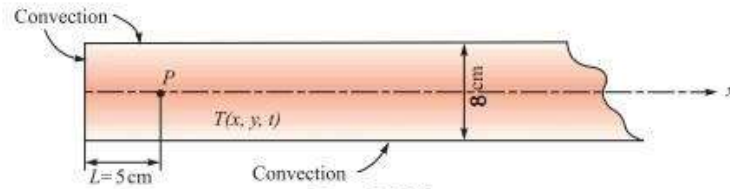

Figure P6-35
- 6-35** A fireclay brick in the dimensions of semi infinite strip, $0 < x < \infty$, as shown in Figure P6-35 within $0 < y < 8$ cm is initially at a uniform temperature $T_i = 250^\circ\text{C}$. Suddenly it is subjected to an ambient convective cooling at $T_\infty = 25^\circ\text{C}$, with a heat transfer coefficient $h = 100 \text{ W}/(\text{m}^2 \cdot ^\circ\text{C})$. Calculate the temperature T_0 of a point P located along the midplane at a distance $x = L = 5$ cm from the surface, after $t = 2$ h it starts cooling. The fireclay brick has $k = 1 \text{ W}/(\text{m} \cdot ^\circ\text{C})$ and $\alpha = 5.4 \times 10^{-7} \text{ m}^2/\text{s}$